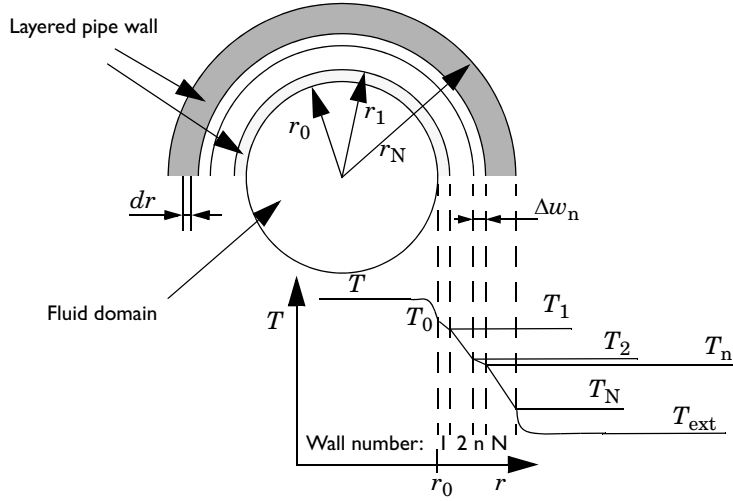

Figure 3-3: Temperature distribution across the pipe wall
In Equation 3-2, $(hZ)_{\text{eff}}$ is an effective value of the heat transfer coefficient h ($\text{W}/\text{m}^2\cdot\text{K}$) times the wall perimeter Z (m) of the pipe. T_{ext} (K) the external temperature outside of the pipe. See Figure 3-3. Q_{wall} appears as a source term in the pipe heat transfer equation, Equation 3-1.
The overall heat transfer coefficient including internal film resistance, wall resistance and external film resistance can be deduced as follows, with reference to Figure 3-3.
Shell balance In Figure 3-3, consider a short length section ΔL of pipe, perpendicular to the figure plane. The heat leaving the internal fluid of that segment into the wall is
The local temperatures in each radial position of the pipe wall (see Figure 3-3) are computed considering the fact that Equation 3-2 also can be applied for each individual wall layer: